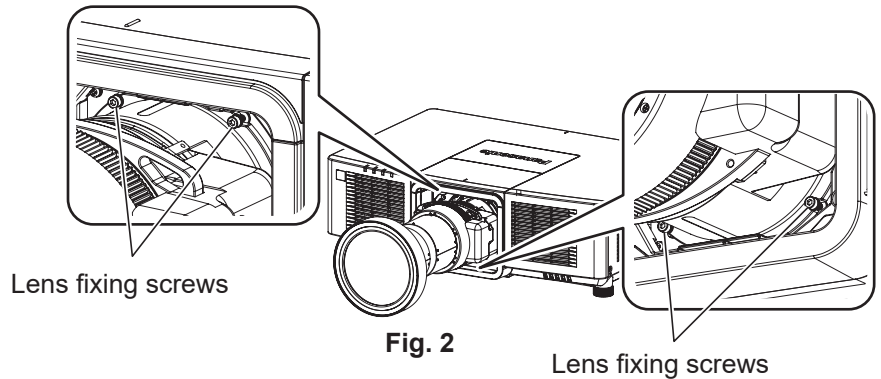

Fig. 2
- 2) **Remove the top slide cover. (Fig. 2)**
- 7) **Attach the top slide cover. (Fig. 2)**
- For the Zoom Lens (Model No.: ET-EMU100), remove the lens fixing screws (4 locations) around the projection lens using the ball point hex driver supplied with the Zoom Lens (Model No.: ET-EMU100). (Fig. 2)